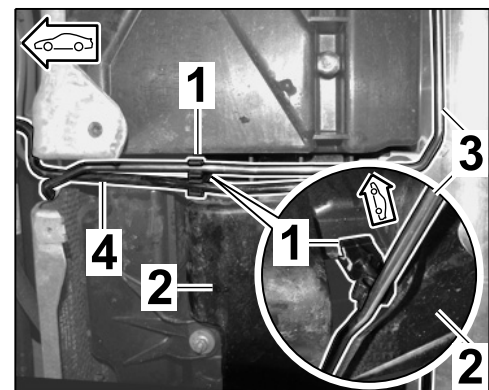

Figure 19
- 2.2.2 Fit combination holder 6.0 (clip, 1 ea.) on the very front strengthening rib (underside of luggage-compartment pan) (⇒ *Figure 19*).